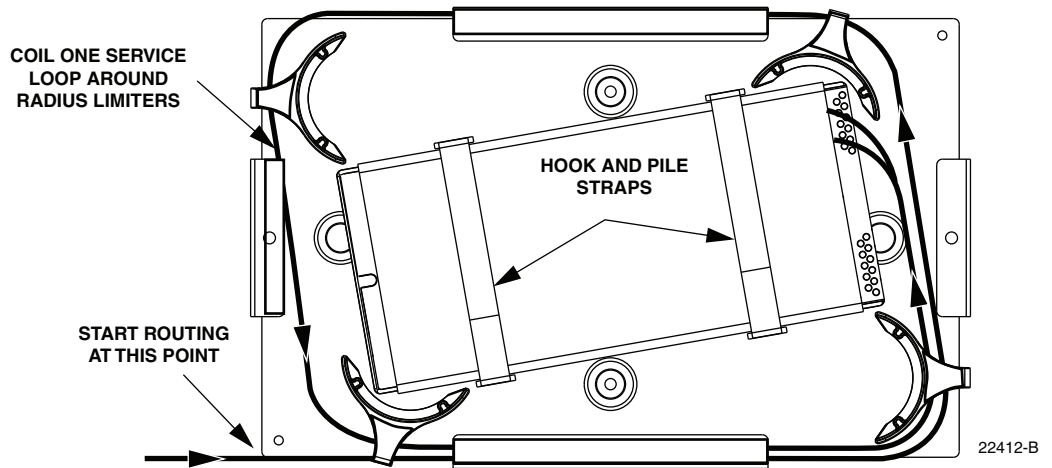

**Figure 24. Ribbon Fiber Splice Tray - Feeder Cable Splicing**
10. Splice the feeder cable fibers to the appropriate splitter fibers as specified by local policies and procedures. Adjust and route the fibers within the splice tray as shown in Figure 24. Refer to Table 3 for the splitter fiber designations.